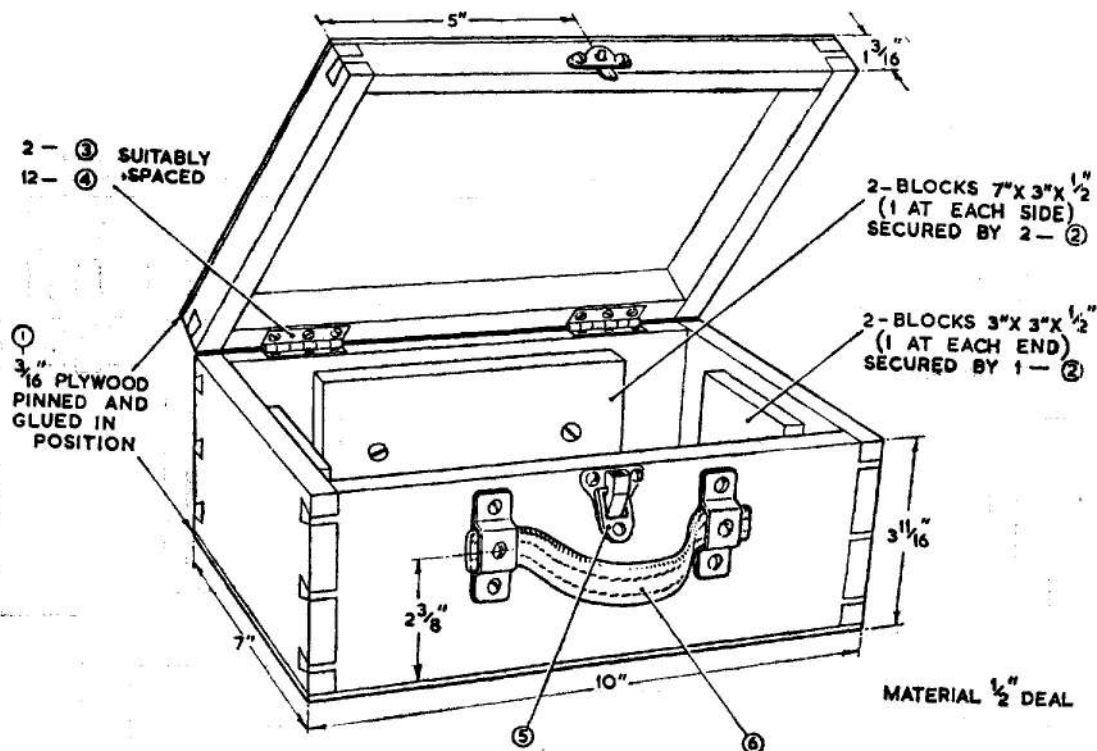

Fig. 2. Test set case
8. In the manufacture of the protective test set case, reference is made to fig. 2. for details of dimensions and assembly. The following is the procedure that should be adopted:—
Material required for test set case (fig. 2)